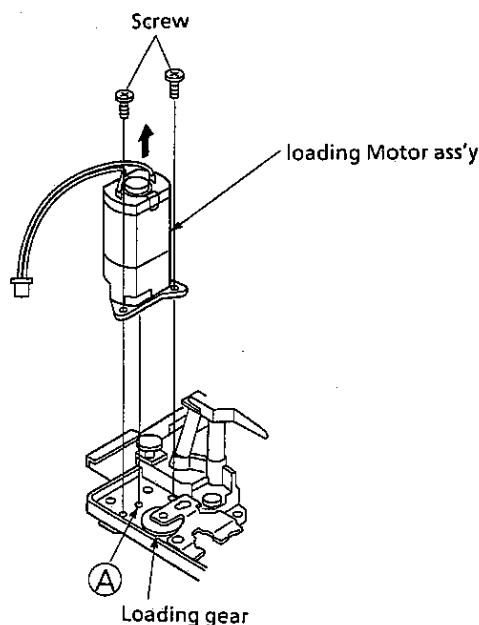

Figure 7-5(a).
- 1) Eject mode (Cassette removing position) (Fig. 7-5(b))
The mechanism is in this mode when the following conditions are both met: The slide chassis is in the furthest position from the drum and the eject lever is in position ① as shown in Fig. 7-5(c).